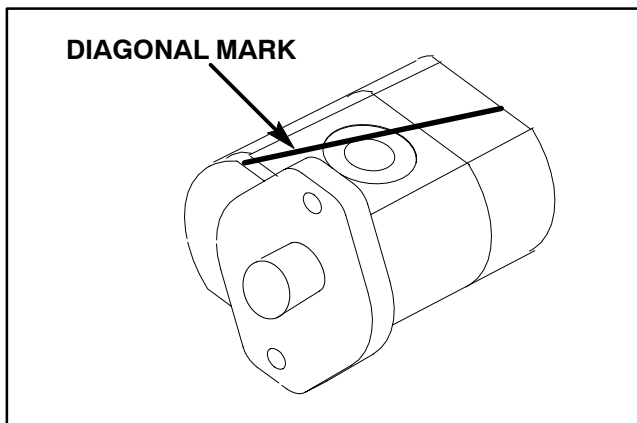

Figure 69
3. Use a marker or scribe to make a **diagonal** mark across the front flange, body, and rear cover for reassembly purposes (Fig. 69).